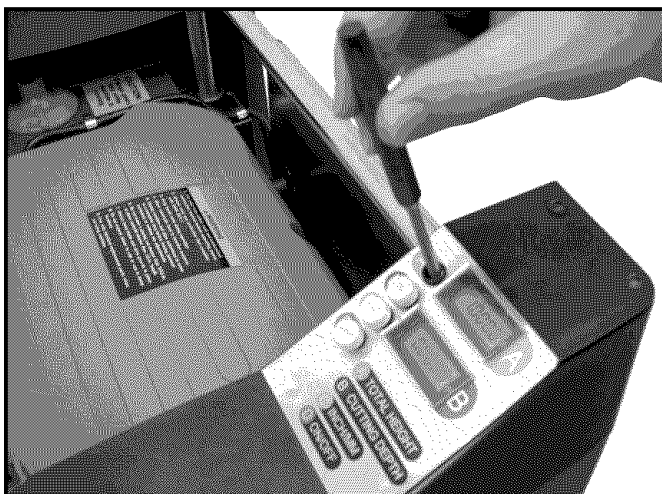

Figure 17 – Calibrating the LCD Display
- Remove button ‘A’, and using a punch or other suitable object, insert into the button hole and press. The display A will read 1.0000” or 25.4 mm. (see Figure 17).